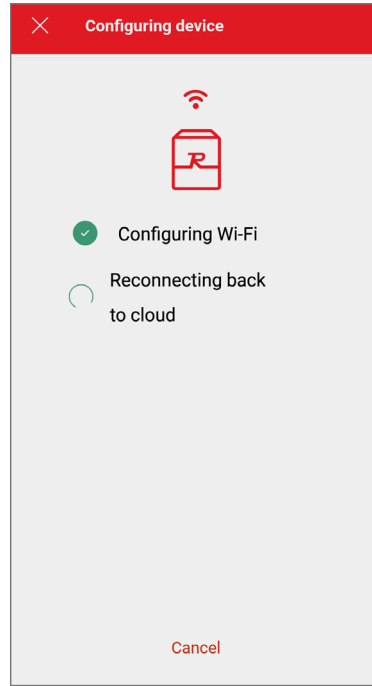
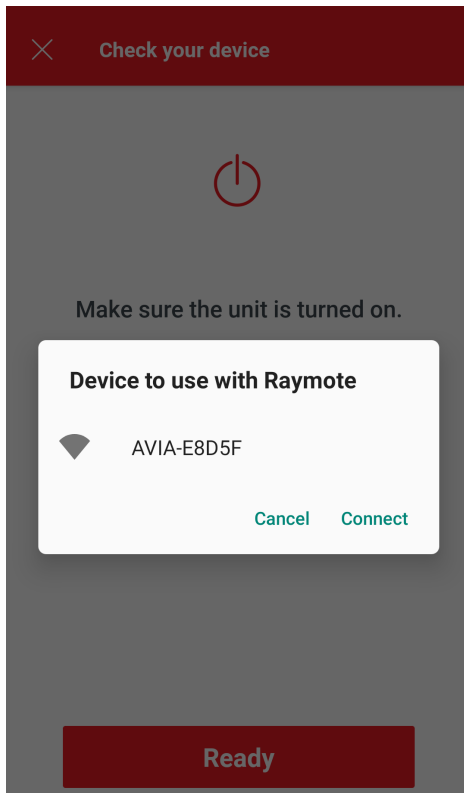

Figure 86. Configuring Device
Figure 85. Confirm Selection
- After selecting your device, the Raymote mobile app will provide the Wi-Fi credentials to your heater. See **Figure 85** and **Figure 86**.